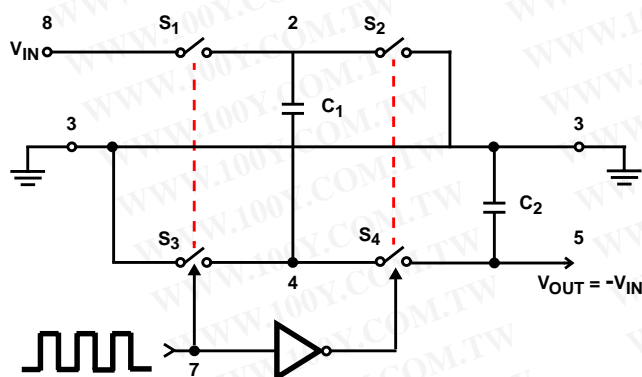
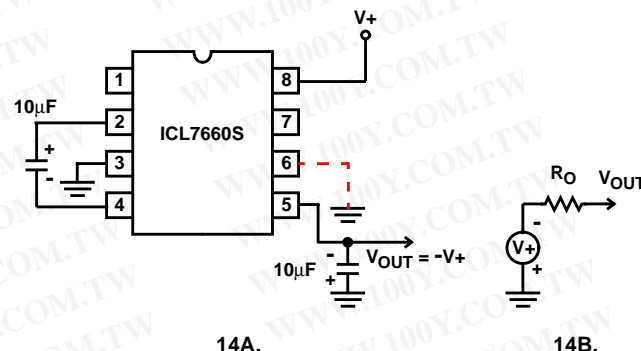
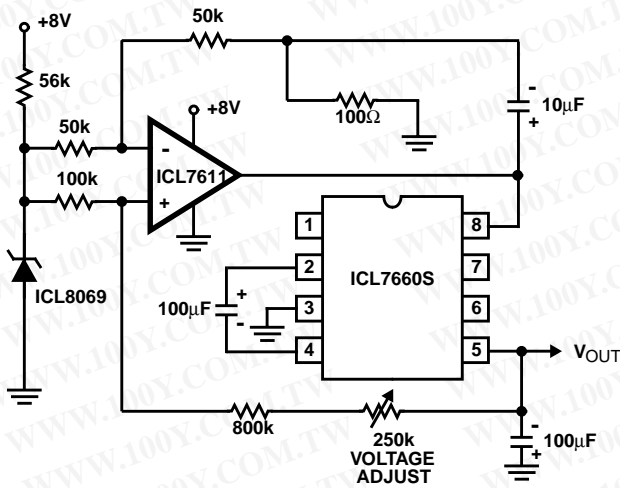
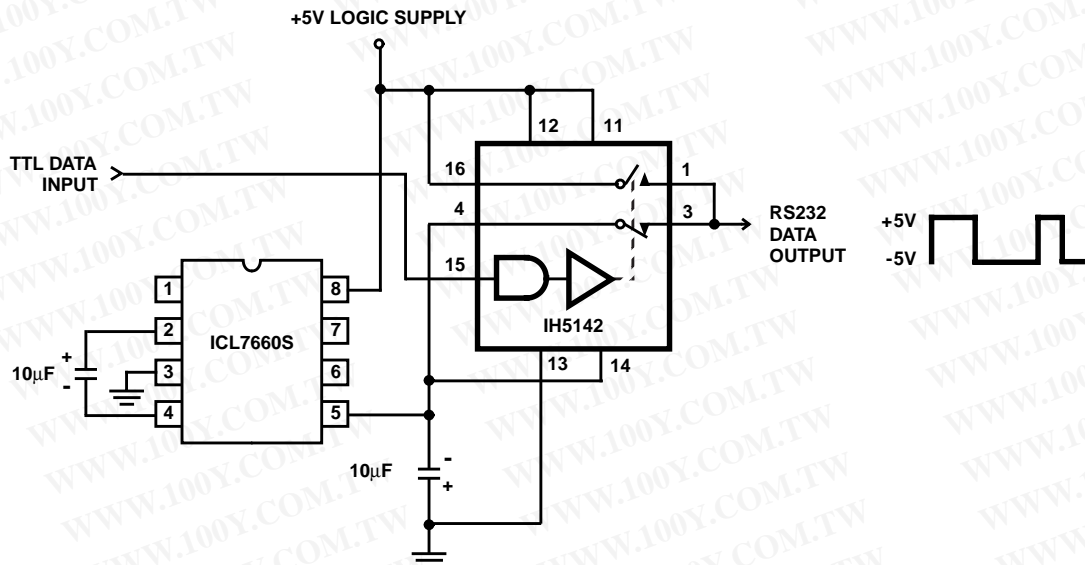

FIGURE 13. IDEALIZED NEGATIVE VOLTAGE CONVERTER
FIGURE 14. SIMPLE NEGATIVE CONVERTER AND ITS OUTPUT EQUIVALENT
FIGURE 20. REGULATING THE OUTPUT VOLTAGE
FIGURE 21. RS232 LEVELS FROM A SINGLE 5V SUPPLY
The ICL7660S contains all the necessary circuitry to complete a negative voltage converter, with the exception of 2 external capacitors which may be inexpensive 10 μ F polarized electrolytic types. The mode of operation of the device may be best understood by considering Figure 13, which shows an idealized negative voltage converter.
In the ICL7660S, the 4 switches of Figure 13 are MOS power switches; S_1 is a P-Channel devices and S_2 , S_3 and S_4 are N-Channel devices. The main difficulty with this approach is that in integrating the switches, the substrates of S_3 and S_4
where V_1 and V_2 are the voltages on C_1 during the pump and transfer cycles. If the impedances of C_1 and C_2 are relatively high at the pump frequency (refer to Figure 13) compared to the value of R_L , there will be substantial difference in the voltages V_1 and V_2 . Therefore it is not only desirable to make C_2 as large as possible to eliminate output voltage ripple, but also to employ a correspondingly large value for C_1 in order to achieve maximum efficiency of operation.
The majority of applications will undoubtedly utilize the ICL7660S for generation of negative supply voltages. Figure 14 shows typical connections to provide a negative supply where a positive supply of +1.5V to +12V is available. Keep in mind that pin 6 (LV) is tied to the supply negative (GND) for supply voltage below 3.5V.
The output characteristics of the circuit in Figure 14 can be approximated by an ideal voltage source in series with a resistance as shown in Figure 14B. The voltage source has a value of $-(V^+)$. The output impedance (R_O) is a function of the ON resistance of the internal MOS switches (shown in Figure 13), the switching frequency, the value of C_1 and C_2 , and the ESR (equivalent series resistance) of C_1 and C_2 . A good first order approximation for R_O is:
The ICL7660S may be employed to achieve positive voltage doubling using the circuit shown in Figure 20. In this application, the pump inverter switches of the ICL7660S are used to charge C_1 to a voltage level of $V_+ - V_F$ (where V_+ is the supply voltage and V_F is the forward voltage on C_1 plus the supply voltage (V_+) is applied through diode D_2 to capacitor C_2 . The voltage thus created on C_2 becomes $(2V_+) - (2V_F)$ or twice the supply voltage minus the combined forward voltage drops of diodes D_1 and D_2 .
Figure 21 combines the functions shown in Figure 14 and Figure 20 to provide negative voltage conversion and positive voltage doubling simultaneously. This approach would be, for example, suitable for generating +9V and -5V from an existing +5V supply. In this instance capacitors C_1 and C_3 perform the pump and reservoir functions respectively for the generation of the negative voltage, while capacitors C_2 and C_4 are pump and reservoir respectively for the doubled positive voltage. There is a penalty in this configuration which combines both functions, however, in that the source impedances of the generated supplies will be somewhat higher due to the finite impedance of the common charge pump driver at pin 2 of the device.